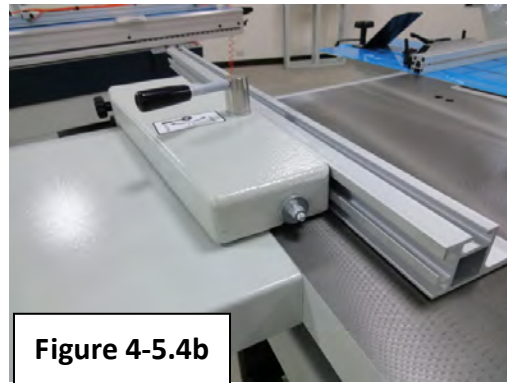

Figure 4-5.4b
2. Horizontal position (Fig. 4-5.4b) for cutting thin work piece and for slanting cuts.